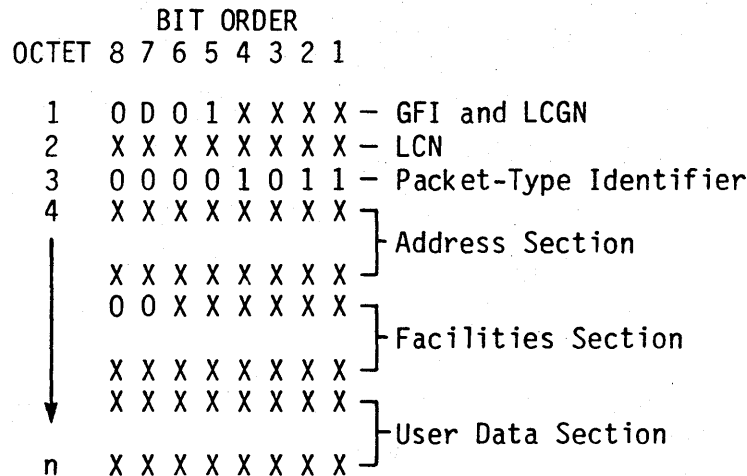

Figure 9-4. Call Request and Incoming Call Packet Format
9.26 Call Request and Incoming Call. The call-request packet is initiated by the calling DTE and is transmitted over the local DTE/DCE interface to the network. At the called DTE the corresponding incoming call packet is received from the network over the remote DTE/DCE interface. The format of these packets is shown in figure 9-4. In addition to the packet header, previously described, these packets include address, facilities, and user data sections.